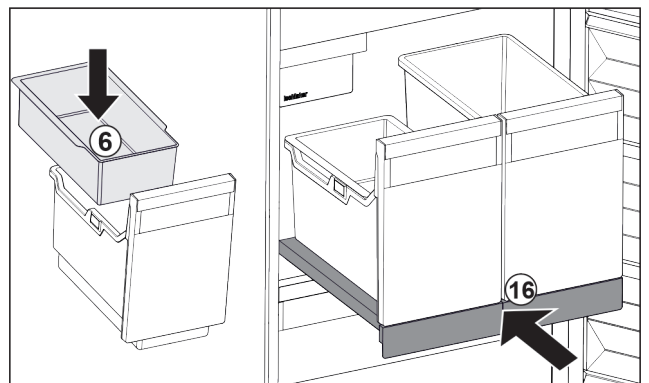

Fig. 87
- Insert hang-on tray Fig. 87 (6) for ice cubes.
- Slide in the pull-out board with (IceTower) container. Fig. 87 (16)